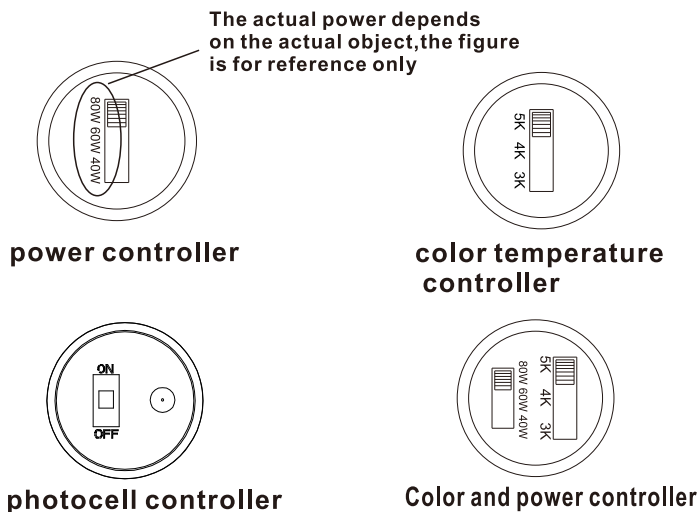
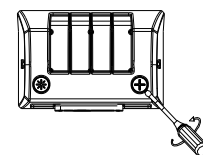

figure 2.3
figure 2.4
Step 3: After adjusting the required control function (figure 2.3), tighten the metal plug and the plastic plug clockwise (figure 2.4).